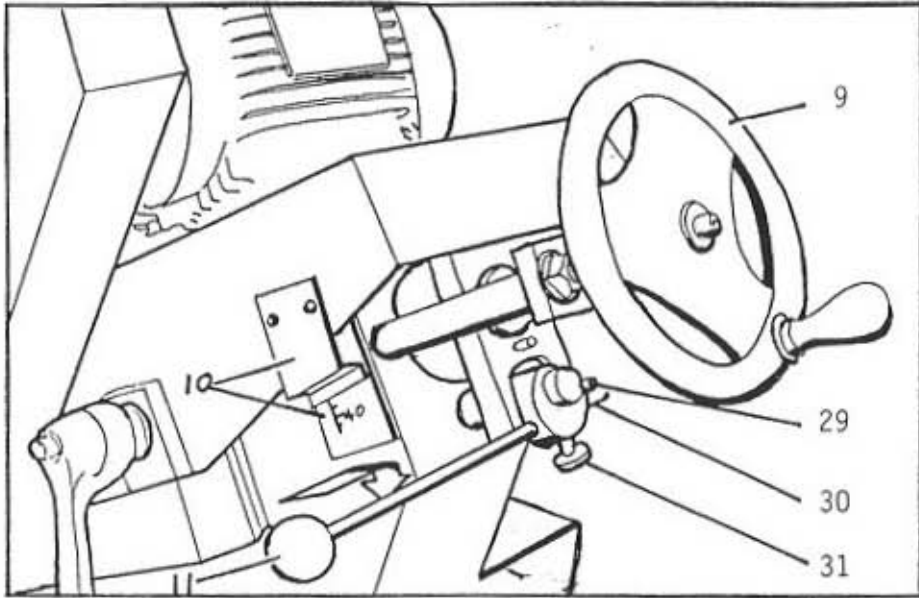
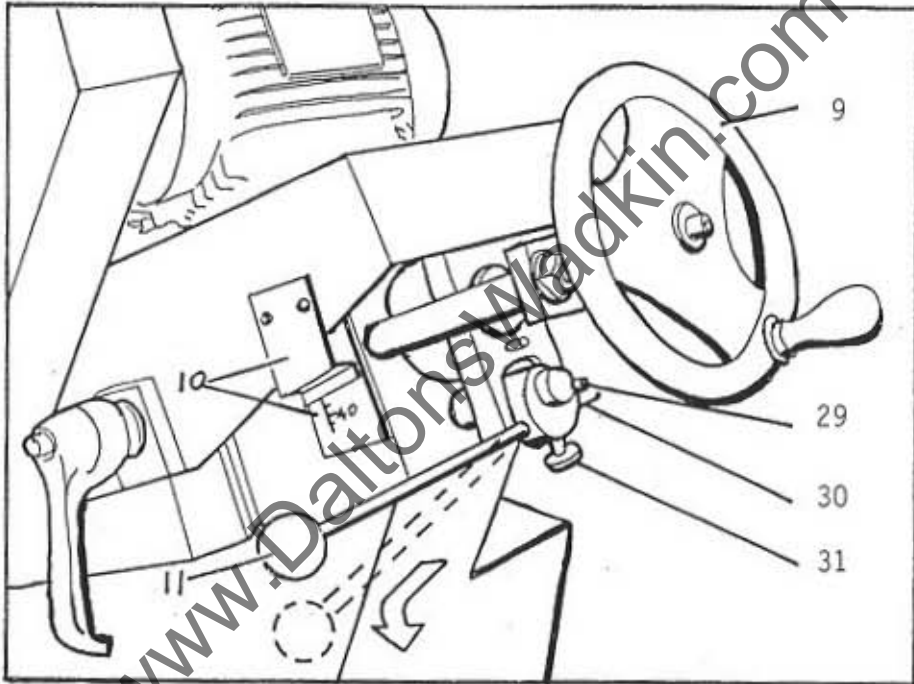
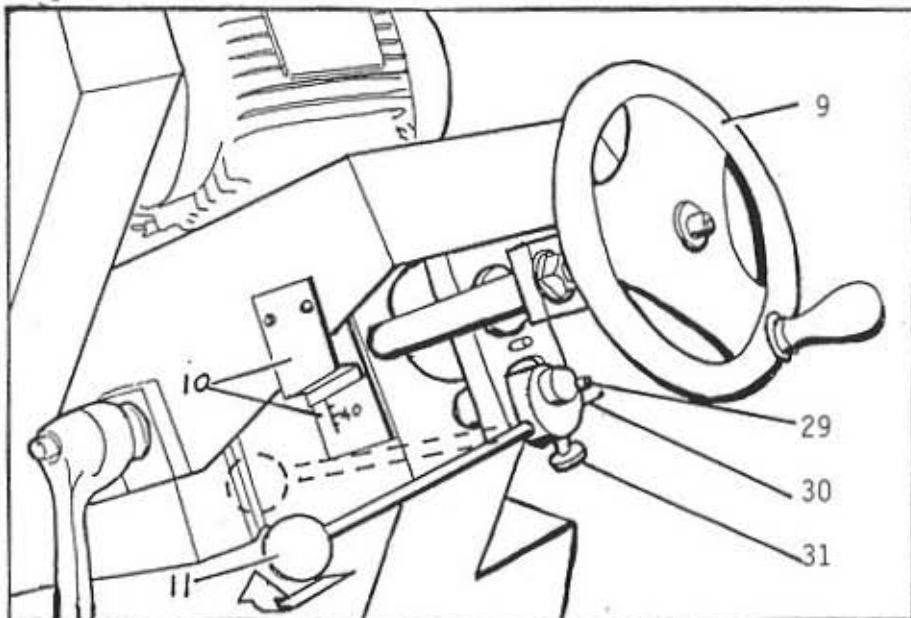

Fig. 9
Fig. 10
Fig. 11
SIDE CLEARANCE ANGLE (Figs. 9,10 & 11)
To set the wheel vertical, move lever (11) 'in' and down so that the end (30) contacts stop (29). The lever is secured by screw (31). Always set the wheel vertical when dressing it and when rough grinding blank cutters. See Fig. 9. To tilt the wheel first move the lever out so that the end (30) clears stop (29), and secure by screw (31). Move the lever down to tilt the wheel to the right, Fig. 10. Move the lever up to tilt the wheel to the left, Fig. 11. The degree of tilt is shown by scale and pointer (10) and which also shows the clearance angle when the wheel is set vertical.